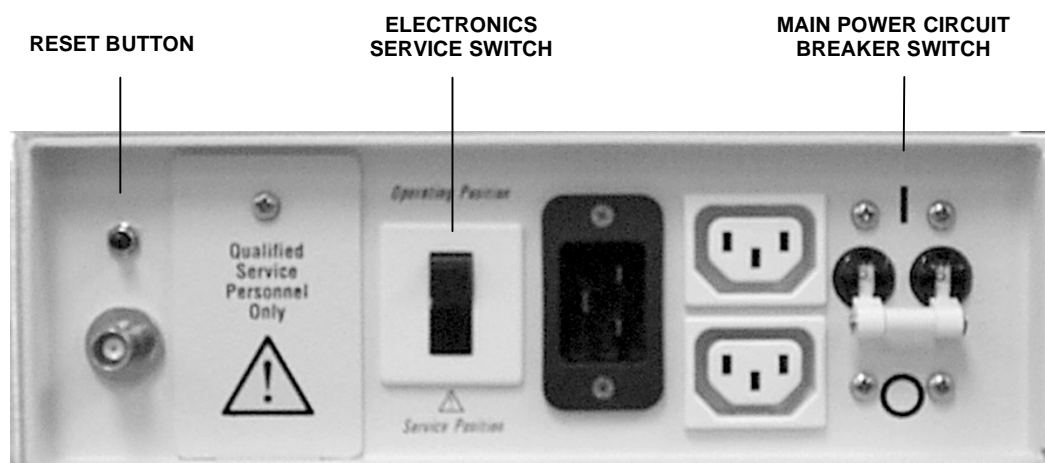

Figure 3-1. Power panel, showing the Reset button, electronics service switch, and the main power circuit breaker switch
If you need to turn off the MS detector in an emergency, place the main power circuit breaker switch (located on the power panel on the right side panel of the MS detector) in the Off (O) position. See Figure 3-1. This turns off all power to the MS detector, including the vacuum pumps. Although removing power abruptly will not harm any component within the system, this is not the recommended shutdown procedure to follow. Refer to the topic **Shutting Down the System Completely**, for the recommended procedure.
3. Place the electronics service switch, located on the power panel (see Figure 3-1 on page 3-2), in the Service Position. Power to the non-vacuum system electronics is turned off when you place the electronics service switch in the Service Position.
4. Place the main power circuit breaker switch, located on the power panel (see Figure 3-1) in the Off (O) position. When you place the main power circuit breaker switch in the Off (O) position, the following occurs:
To reset the MS detector, press the Reset button located on the power panel. See Figure 3-1 on page 3-2 for the location of the Reset button. When you press the Reset button, the following occurs: